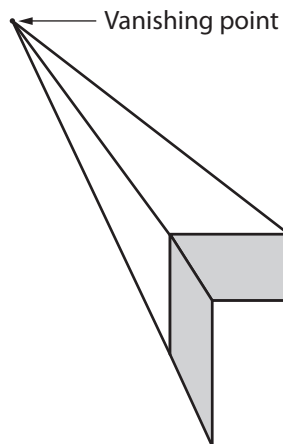

Figure 1 – Perspective drawing using a single vanishing point
The front of the object is drawn to scale as an orthographic drawing (i.e., two dimensional). An imaginary vanishing point is chosen and placed off to one side and higher or lower. In Figure 1, the vanishing point has been placed to the left and above, at about 45 degrees. The top and sides need to be shortened because of the optical illusion created by angling towards the viewer.
4. a. Figure 1